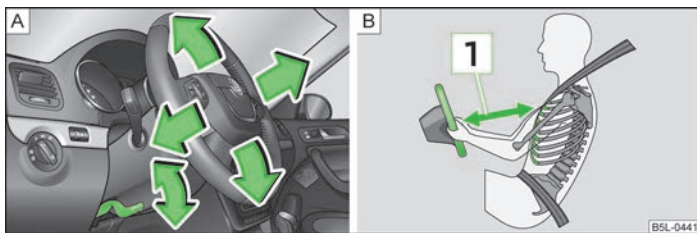

Fig. 94 Adjustable steering wheel: Lever next to the steering column/safe distance to the steering wheel
- Maintain a distance of 25 cm **1** to the steering wheel » Fig. 94 on page 93 - **2**. Not maintaining this minimum distance will mean that the airbag system will not be able to properly protect you - hazard!
- Pull the lever below the steering wheel down » Fig. 94 - A.